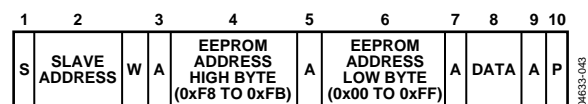

Figure 38. Single Byte Write to EEPROM
- To write a single byte of data to EEPROM. In this case, the command byte is the high byte of the EEPROM address from 0xF8 to 0xFB. The first data byte is the low byte of the EEPROM address, and the second data byte is the actual data, as shown in Figure 38.